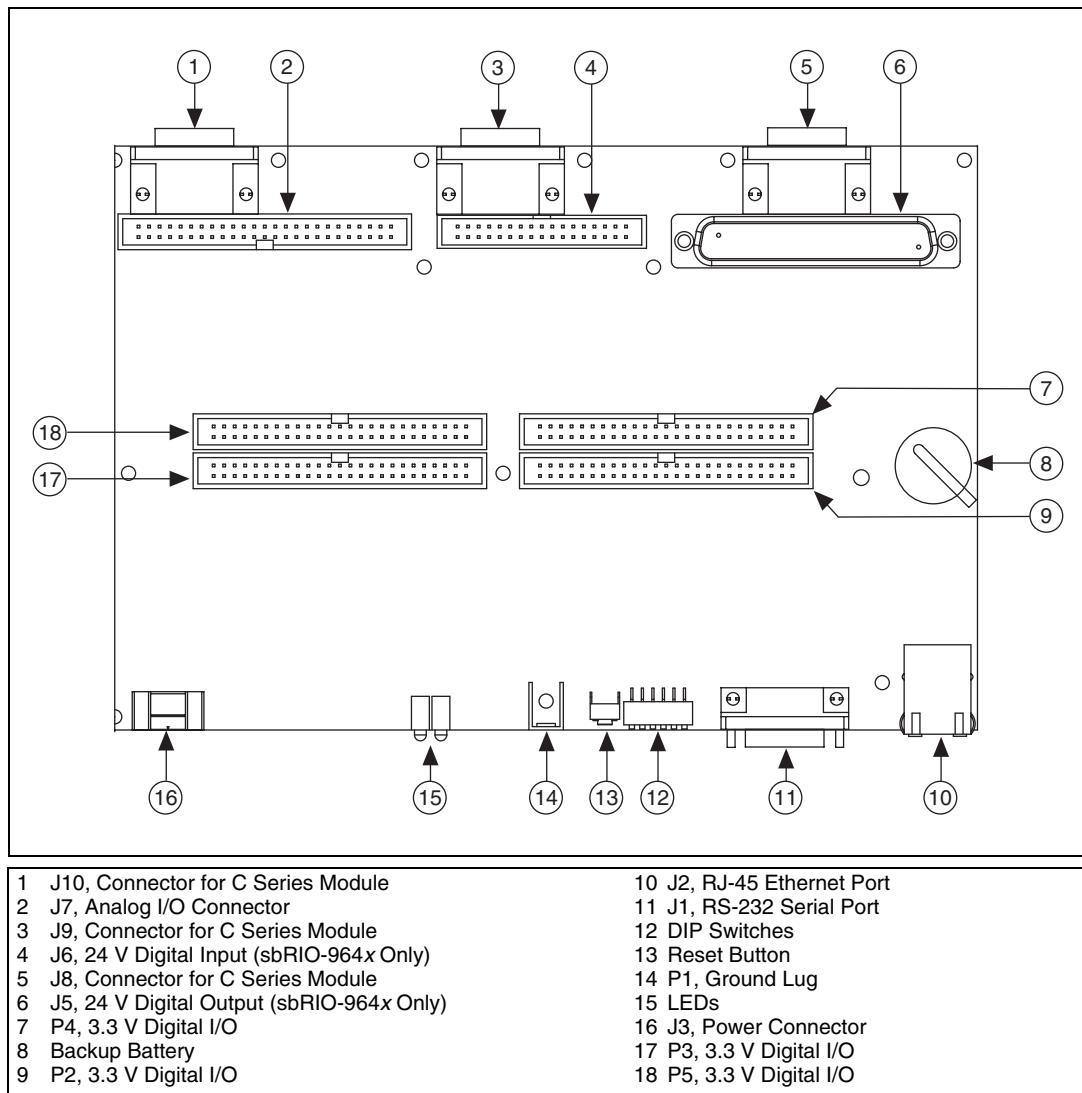

Figure 4. sbRIO-961x/963x/964x Parts Locator Diagram
1. Remove the MINI-COMBICON plug from connector J3 of the sbRIO-961x/963x/964x. Refer to Figure 4 for the location of J3.